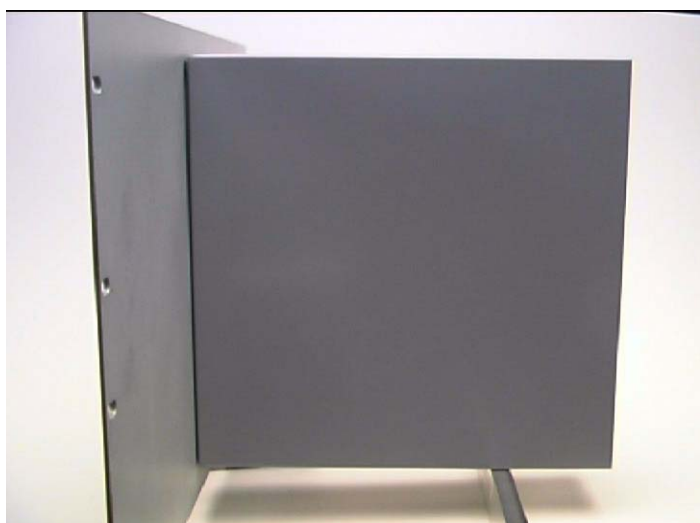

Figure 2-7. Panel Mount Support
3. Ensure a panel thickness of at least 3 mm (0.12 in) to prevent distortion. If you use a thinner panel, support the rear of the case (refer to Figure 2-7).